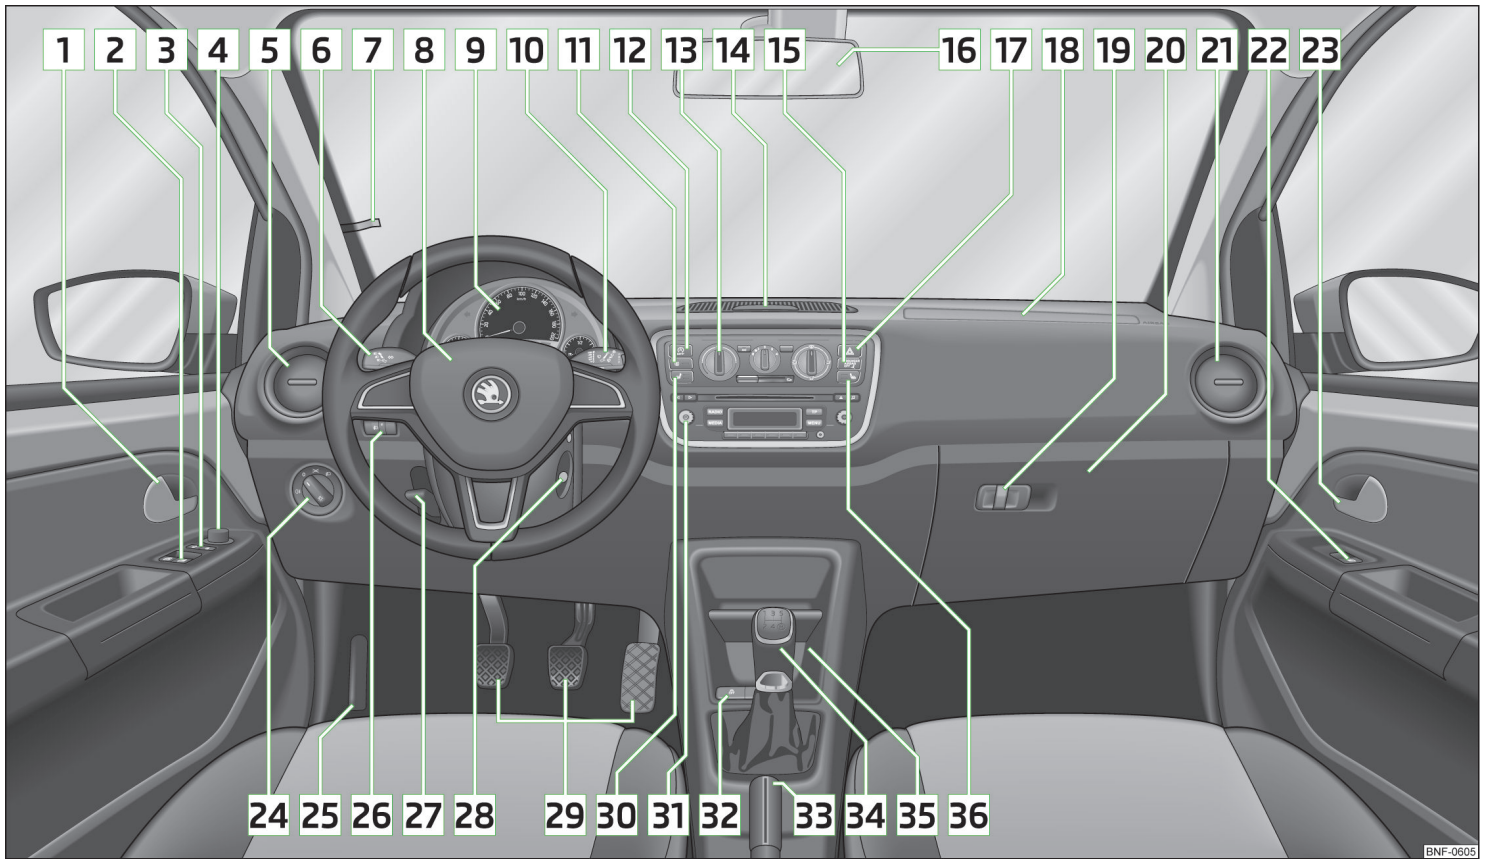

Fig. 17 Cockpit
- The arrangement of the controls right-hand drive models may differ from the layout shown in » Fig. 17. The symbols on the controls and switches are the same as for left-hand drive models.